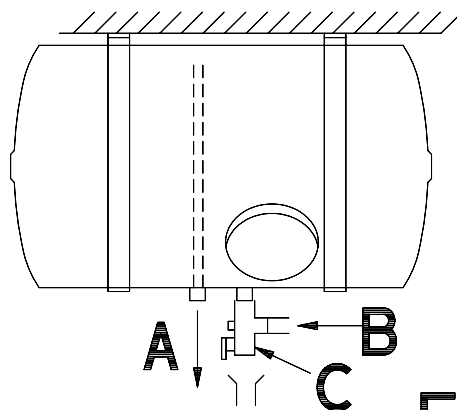

Fig. 10
- Fig.10 horizontal tubes sur virole au plafond
- Fig.10 horizontal tubes on collar on the ceiling